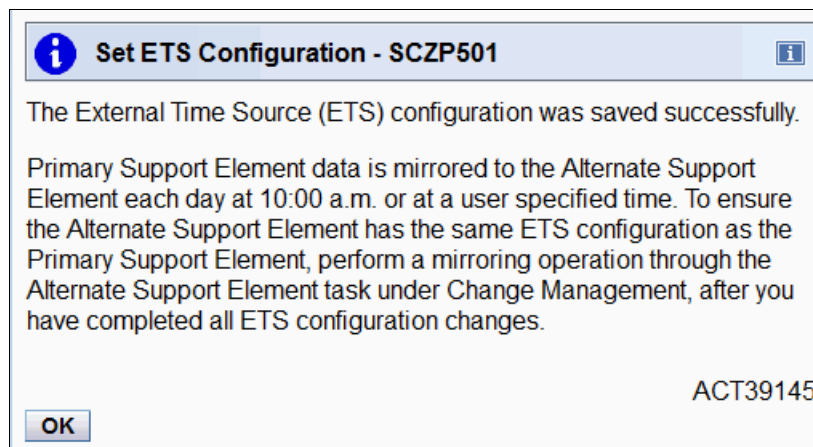

Figure 9-33 System (Sysplex) Time: Set ETS Configuration
7. The Set ETS Configuration panel (Figure 9-33) shows which selected NTP server is used for time adjustments. Click **OK** to complete the operation.